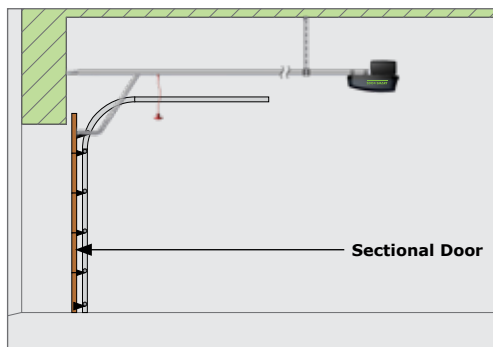

FIGURE 4
- The drive rail must be perpendicular to the door as shown in Figure 4